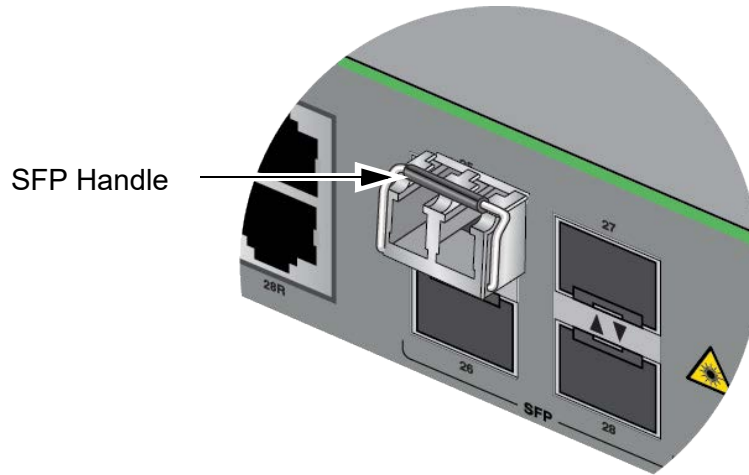

Figure 27. Positioning the SFP Handle in the Upright Position
5. Verify the position of the handle on the SFP transceiver. If the transceiver is in a top slot, the handle should be in the upright position, as shown in Figure 27. If the transceiver is in a bottom slot, the handle should be in the down position.